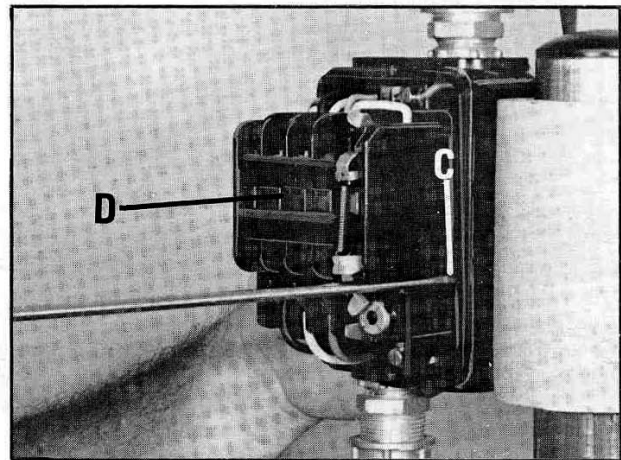

Fig. 30
3. Loosen screw (C) Fig. 30, and pull out starter and overload block (D).